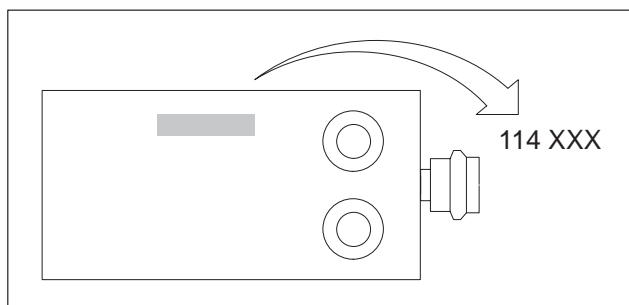
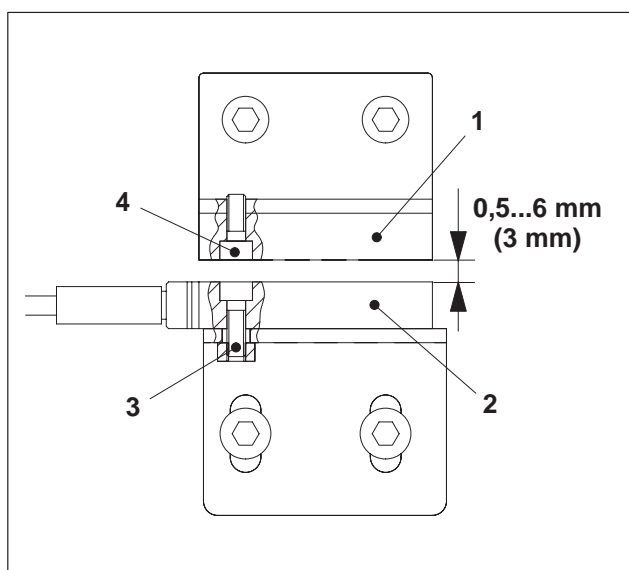

Fig. 7 Casing model "114"
Fig. 9 Installed reed-contact switch type 114
The switch consists of a sensor (Fig. 9/2) and an actuating magnet (Fig. 9/1). Only use sensors with the casing model "114" (Fig. 7).
With the guard closed the distance between the sensor and the actuating magnet must amount to **0.5...6 mm, ideally 3 mm** (Fig. 9).
- 1 Remove the existing sensor (Fig. 9/2).
- 2 Moisten the Allen screws (Fig. 9/3) for the new switch with thread glue SN604-S1.
- 1 Remove the existing actuating magnet (Fig. 9/1).
- 2 Moisten the Allen screws (Fig. 9/4) for the new actuating magnet with thread glue SN604-S1.